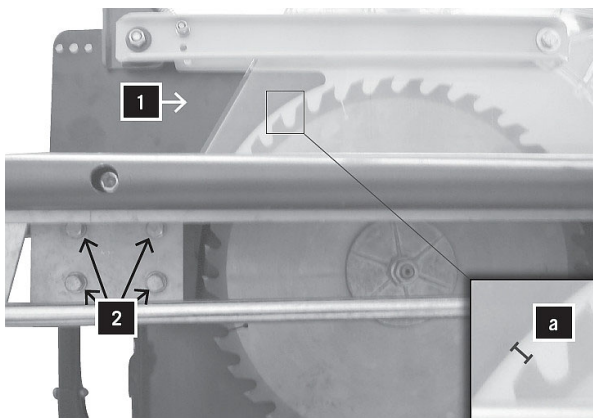

Fig. 14: Adjusting the splitting wedge
In case of deviation, correct as follows, Fig. 14:
- Loosen hexagon screws (Pos.2, Fig. 14),
- Tighten the hexagon head screws (Pos.2, Fig. 14) again.